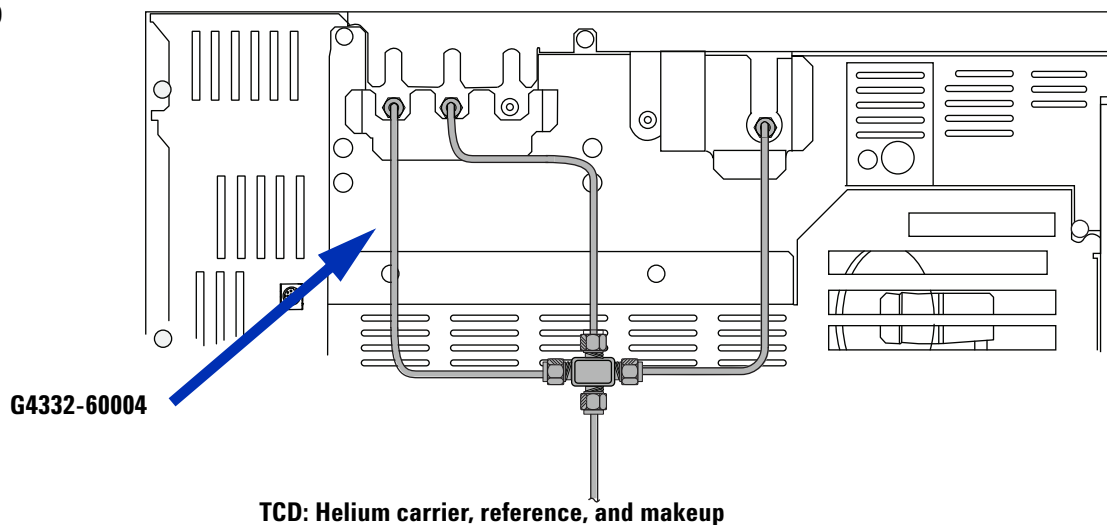
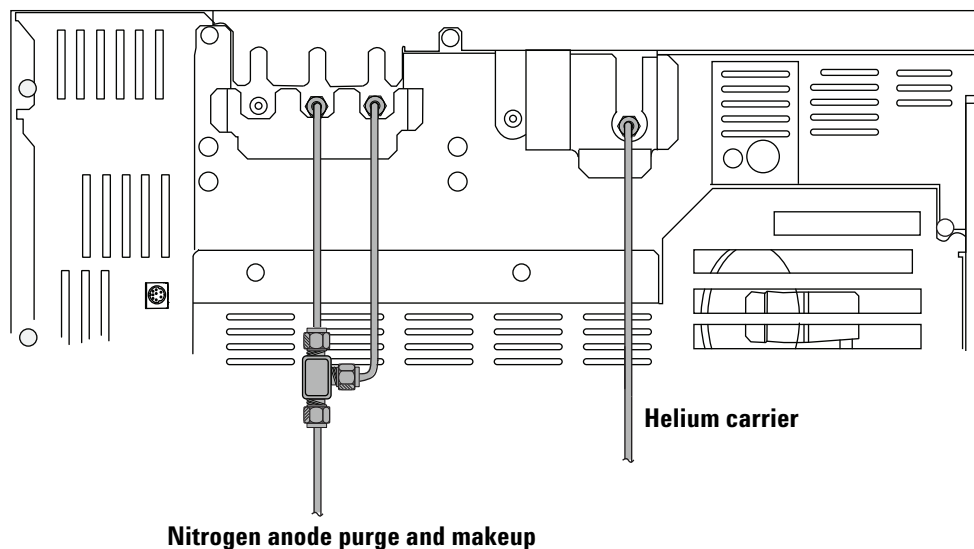

Figure 5 Proper plumbing configurations for instrument checkout (FID, NPD, TCD)
Figure 6 Proper plumbing configuration for instrument checkout (uECD)
- 3 Install the tubing and connect to gas supply. See Figure 4, Figure 5, and Figure 6.